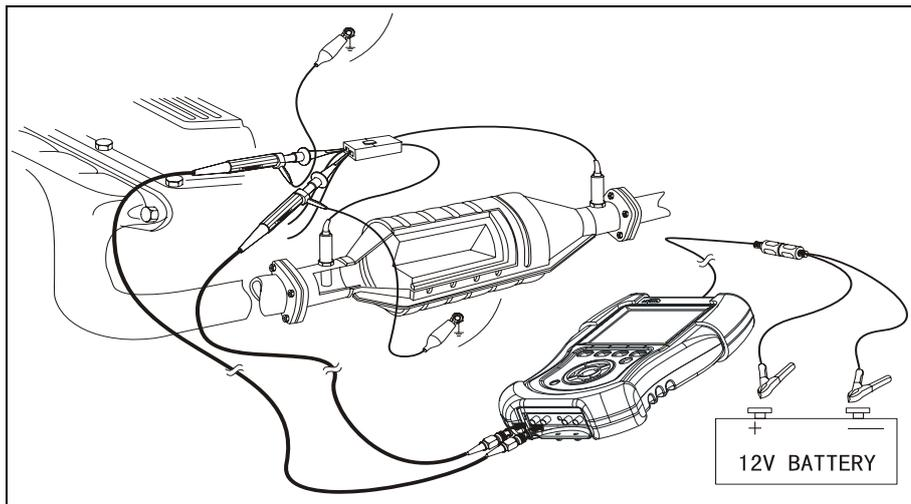

Fig. 3-5
When connecting KT600 to extension line for power supply, choose battery or cigar igniter as power supply according to the battery position of vehicle mode tested. All connecting diagrams in this users manual take power supply by battery as example. If choosing cigar igniter connector, confirm that cigar igniter has 12V battery voltage first. Connect two test probes to Channel 1 and Channel 2 (CH1 and CH2 port) of KT600, and then connect the small alligator clip on one of the test probes to the negative of battery or grounding, pierce test probes into the trigger signal line of front and rear oxygen sensors. Connecting diagram is shown as Fig.3-5.
1. Connect equipment according to Fig.3-5, switch on power supply switch of KT600;